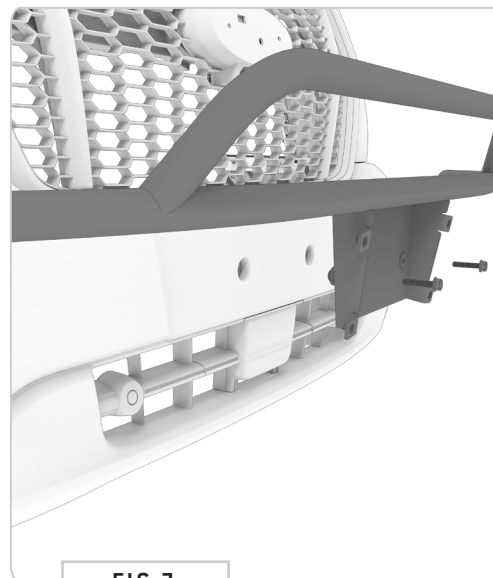

FIG 7
2.2 Position the Nudge bar on the Bumper: Hold the hardware in place as you position the **Nudge Bar** on the bumper. Finger tighten the hardware into the factory holes to hold it in place (FIG 7).